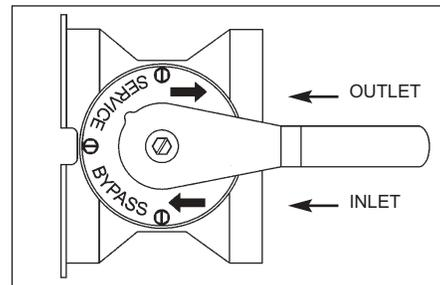

Figure 7
- Wait approximately four (4) hours for water in brine tank to fully dissolve salt.
- Move the bypass valve to the normal service position. (See Page 6, Figure 7)
Stainless Steel Bypass (Figure 7)